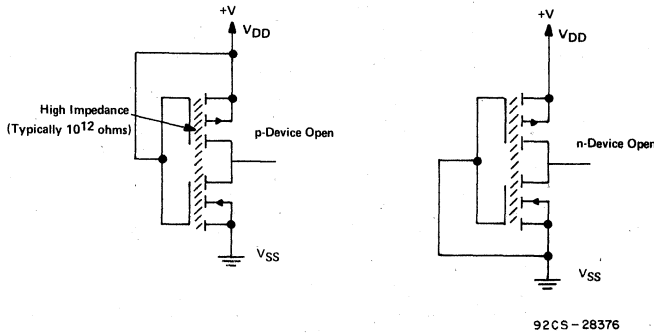

Fig. 6 - Schematic representations of p and n devices when turned off.
**Quiescent Leakage Current**—In bipolar logic devices, such as TTL devices, the current paths that exist from the power source to ground in the quiescent state cause milliamperes of current to flow even when the device is not functioning. Quiescent leakage may be defined for a COS/MOS device as that current that flows from VDD to VSS when, theoretically, all paths for current flow have been opened because the MOS device is off, Fig. 6.